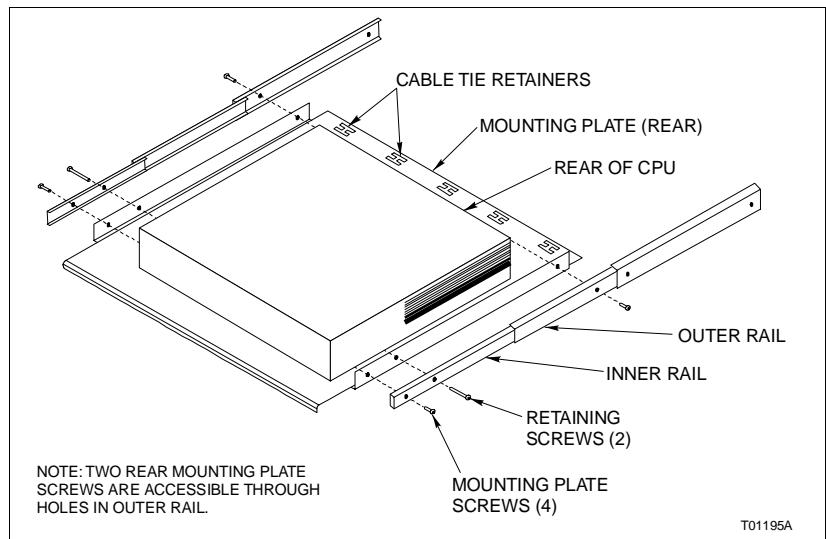

Figure PR20-1. CPU Removal
1. Use the small-tipped magnetic Phillips head screwdriver to remove the two retaining screws (Fig. PR20-1).